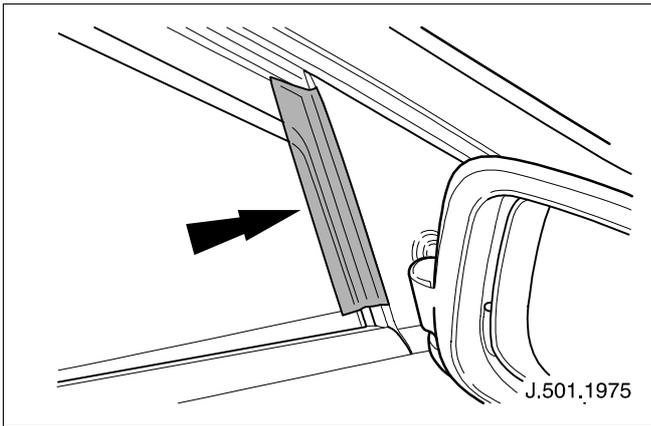

Fig. 2
- 1 Fully tape the rear edge of the mirror base. (See Fig. 2)